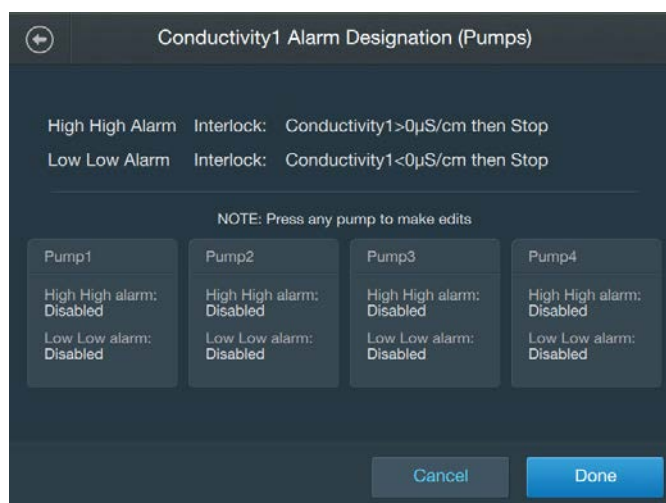

Figure 3.39. Alarm Designation screen.
15. On the screen that appears (Figure 3.39), you will see the interlock and hysteresis parameters you entered for the High High and/or Low Low alarm(s). Underneath, the pumps that have been set up with the system will be shown. Touch on a pump to enable or disable High High and Low Low alarms.